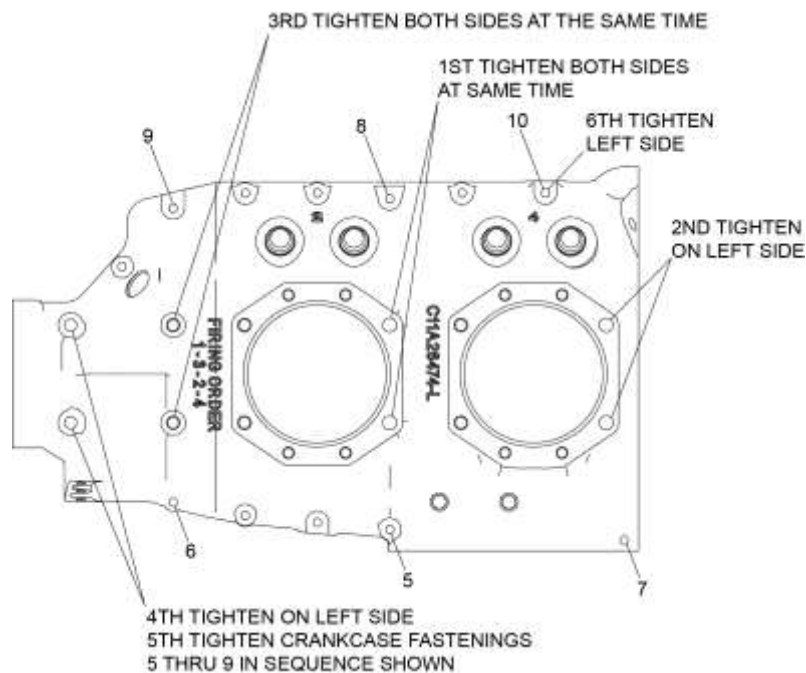

Figure 88
CAUTION TO ENSURE CORRECT ASSEMBLY OF THE CRANKCASE HALVES, TO MINIMIZE THE POSSIBILITY OF THE SUBSEQUENT LOOSENING OF CYLINDER BASE NUTS, AND TO ENSURE A UNIFORM LOAD ON THE MAIN BEARINGS IN THE CRANKCASE, FOLLOW THE STEPS IN THE TORQUE SEQUENCE IN THE ORDER GIVEN IN FIGURE 88.
- (14) Install a nut (and spacer as required) on each thru-stud at the mating flanges on the crankcase halves in the sequence shown in Figure 88 to attach the crankcase halves securely.
NOTICE: To ensure uniform loading on the main bearings, immediately torque the nuts on the anchored thru-studs and the free thru-studs in sequence (Figure 88), beginning at the center of the crankcase and then progressing alternately to the rear and front of the engine.
- (15) Tighten the nuts on thru-studs (to maintain bearing pre-load) at the:
- (16) Torque the nuts in sequence at positions 1st, 2nd, and 3rd to 25 ft.-lb (34 Nm).
- (17) Re-torque the nuts in sequence at positions 1st, 2nd, and 3rd to 50 ft.-lb. (68 Nm).
- (18) Torque the front bolts at position 4 on the left side to 25 ft.-lb (34 Nm).
- (19) Torque the 1/4-in. nuts at positions 5 thru 10 (in the order shown in Figure 88) to 96 in.-lb. (11 Nm).
- (20) Torque the remaining crankcase fasteners as indicated in Table 5.
- (21) Make sure all fasteners on the crankcase are torqued correctly and none are loose.